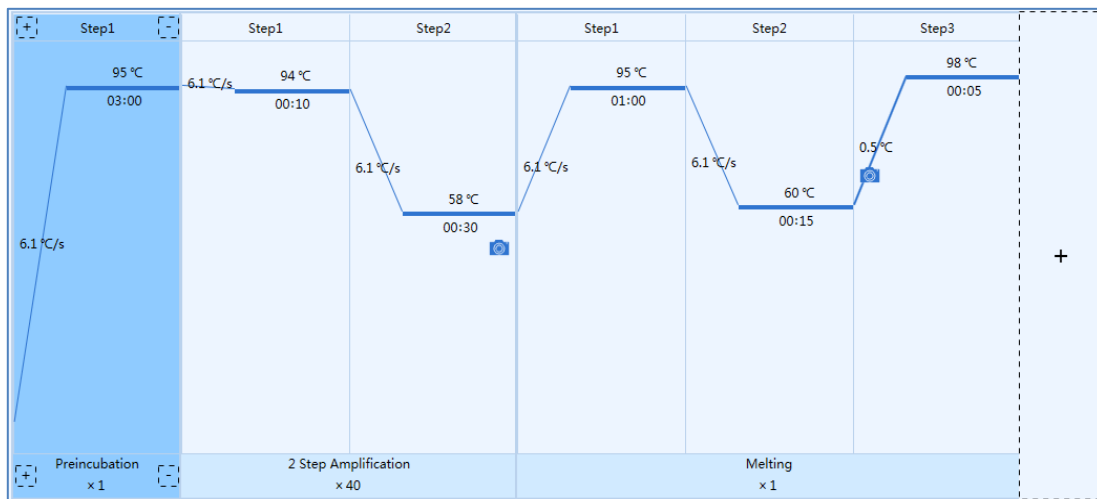

Figure D-5.1. Temperature Program Area – Example Temperature Program
1. **Temperature program area**: user can view the temperature program of the current experiment, or edit its stages and steps in this area, as shown in figure D-5.1.